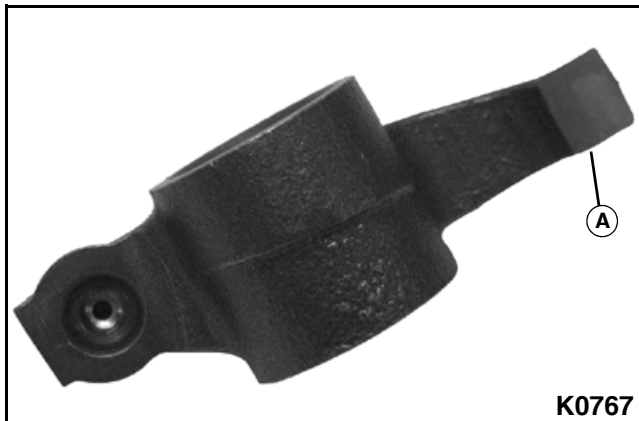

Figure 3-127
1. Inspect the valve-contact surface (A) of the rocker arm for wear. Grind this surface or replace arm rocker if necessary. **See Figure 3-127.**